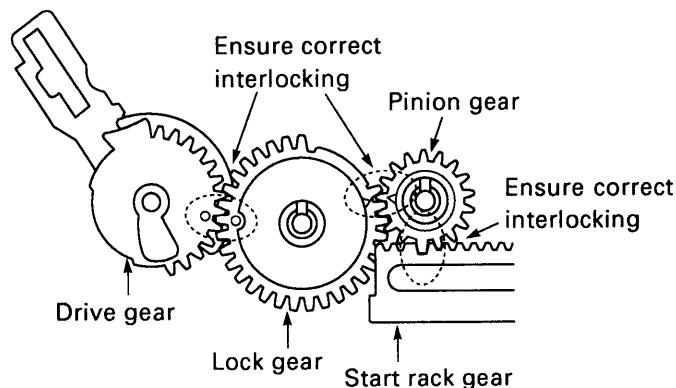

Fig.3-3-2
2. Apply grease (VHJ-0100) to the gear mounting shafts, all the gear teeth, and the cam part of the drive gear ⑥.
3. Ensure that the drive gear, the lock gear and the pinion gear interlock correctly, as shown in Fig.3-3-2.
4. Make sure the clamps ① and ② snap in to the gear holder ③.